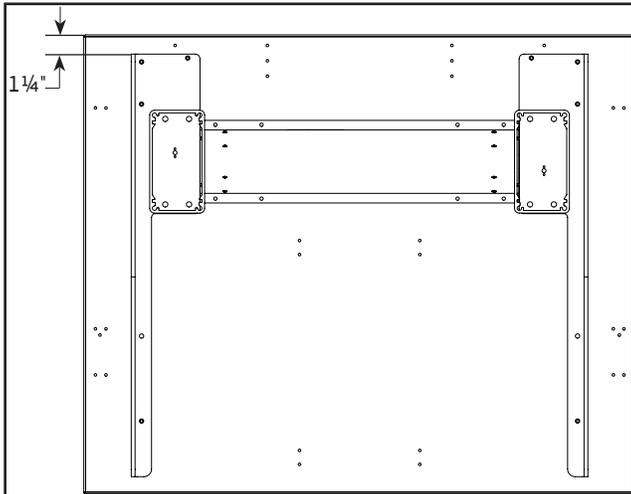

Figure 3: ErgoStat, 30-42" D Work Surface
- 2a. The back edge of the ErgoStat base (Figure 3) should be 1¼" from the back edge of the work surface. Properly align the ErgoStat base support brackets, left and right, over the predrilled holes of the work surface.